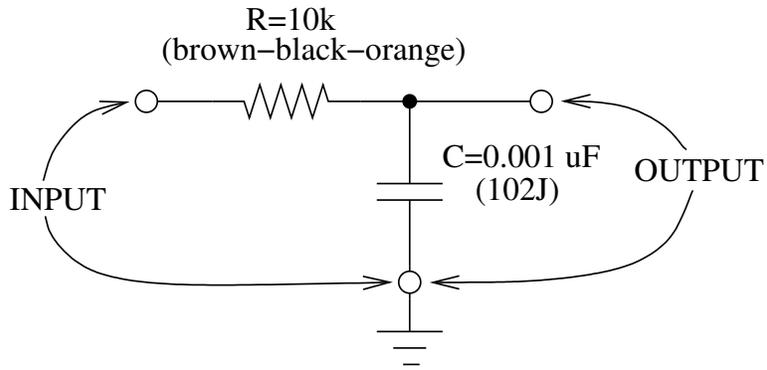

Figure 4: Schematic of the RC circuit used in Exercise 2.
An *RC* “low-pass” filter circuit is shown in Fig. 4. Circuit theory shows that if the circuit is fed a step input (or low frequency square wave) that the output will show an *RC* charging curve that
1. Build the RC circuit shown in Fig. 4 on the breadboard using the parts in the plastic box. *If you have never used a breadboard, or are otherwise confused about how to do this, please ask for help.*
3. Use some short jumper wires to connect the banana terminals to the input of the RC circuit. The “input” is shown in Fig. 4.
4. With a second BNC to banana-plug adaptor and jumper-wire arrangement, connect the output of the RC circuit to CH2 of the scope (see Fig. 4).
1. Construct the divider circuit on the breadboard. (It is very similar to the circuit in Fig. 4.)
6. From the measurements, calculate the ratio V_{out}/V_{in} and compare this with what you expect from the formula, Eq. (3).